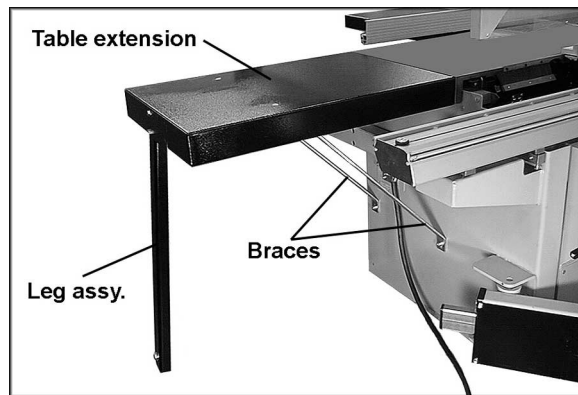

Figure 6
3. Mount the left table extension (Figure 6) with two M8 x 20 cap screws and two M8 flat washers to the cast iron table. Then mount the top of the two braces (Figure 6) to the table with two M6 flat screws, flat washers and nuts. Mount the bottom of the braces to the stand with two M8 x 20 cap screws and two M8 lock washers. Do not tighten yet.
5. A leg assembly (Figure 6) is provided for the outer edge of the extension table as shown. The bottom end of the leg is adjustable for leveling.